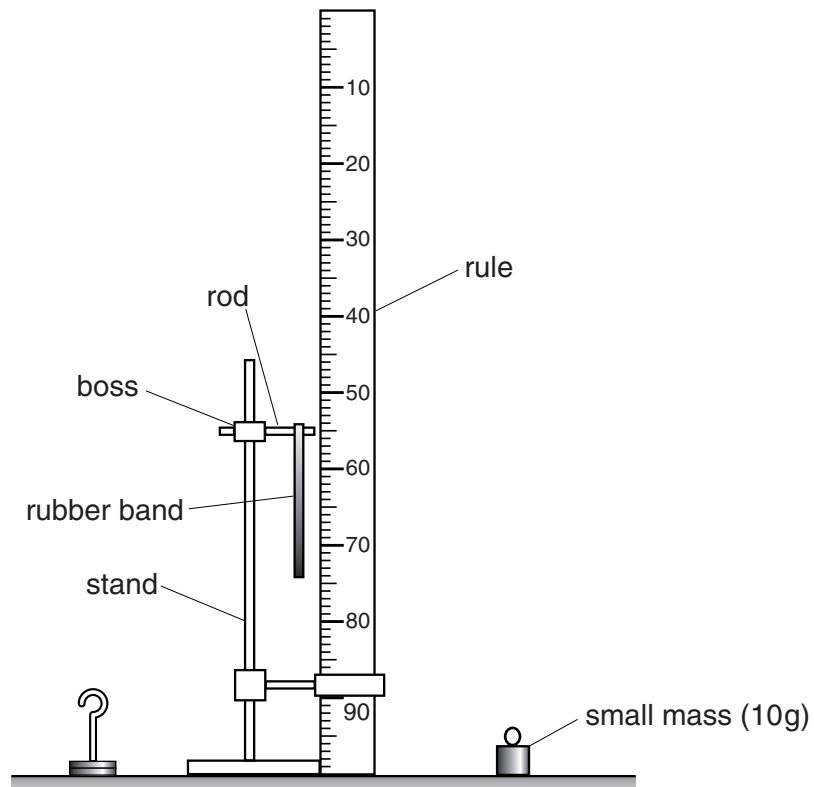

Fig. 2.1
- 1 Fig. 2.1 shows the apparatus as it is to be set up for the candidates, with the top of the rod set between 53 cm and 57 cm.